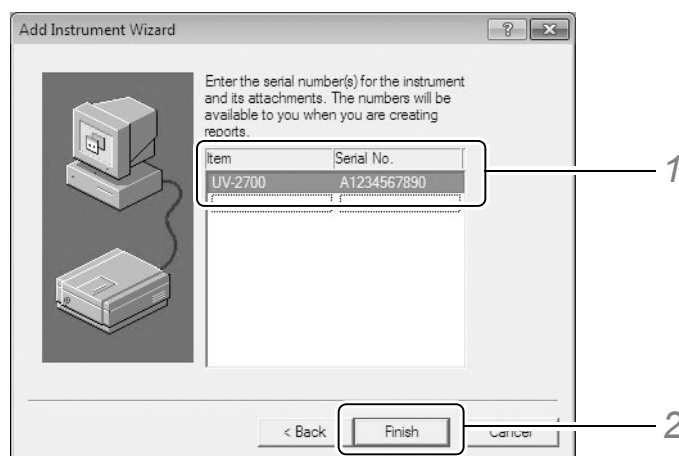

Fig.2-13
- 1 After left-clicking within the frame shown in Fig.2-13, enter the "model name" and "serial number" printed on the label affixed on the side of the instrument.